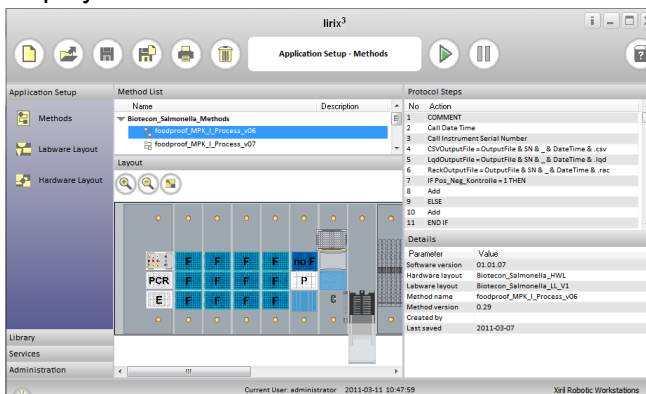

Figure 8. Application Setup - Methods window
- 7. The screen "Application Setup – Methods" will be displayed (Fig. 8).**